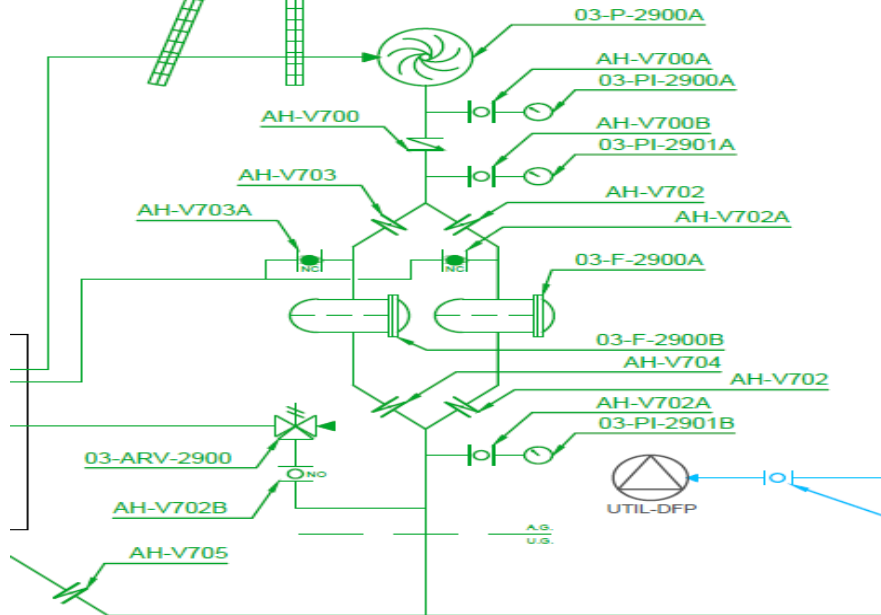

Figure 1.1
HRP depth verification	Figures 1.1 and
1. Prior to opening any valves grates in DFC must be cleared of any debris. Refer to DFC grate cleaning SOP. Refer to Figure 1.1 for valve diagram